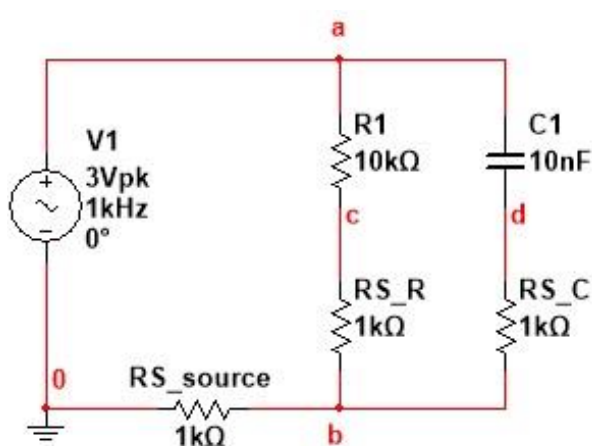
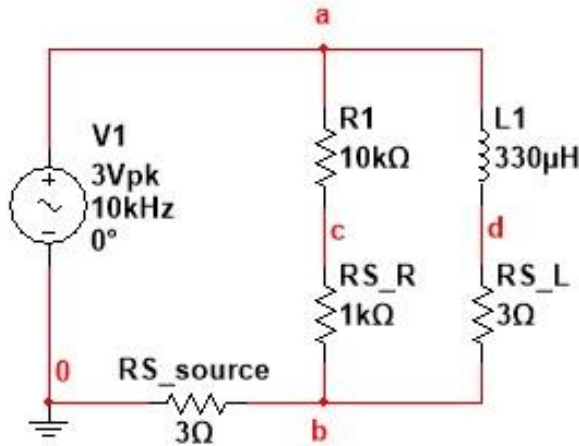
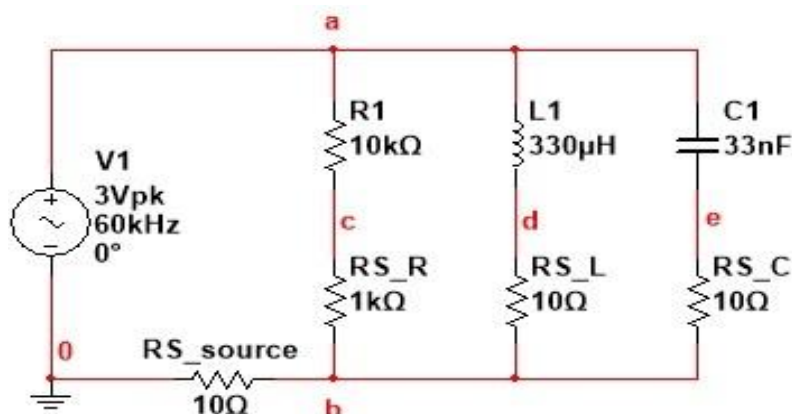

Fig.B.1.3: Parallel RC circuit with sense resistors
Fig.B.1.4: Parallel RL circuit with sense resistors
Fig.B.1.6: Parallel RLC circuit with sense resistors
1. Measure the practical value of the resistor (R) using DMM and note down the value in Tables 1.1, 1.3 and 1.5. Use the measured values in all your calculations.
2. Measure the practical value of the capacitor (C) using an LCR meter and note down the values in Tables 1.1 (10nF), and 1.5 (33nF). Do the same for the inductor (L) and note down the values in Tables 1.3 and 1.5.
- Construct the circuit shown in Fig.B.1.3 on the bread board. Connect Channel 1 of the oscilloscope across the source V_S (positive red port to node 'a' and negative black port to node '0' i.e. ground). Connect the channel 2 at node 'b' (positive red port to node 'b' and negative black port to node '0' i.e. ground).
16. Construct the circuit shown in Fig.B.1.4 on the bread board. Connect Channel 1 of the oscilloscope across the source V_s (positive red port to node 'a' and negative black port to node '0' i.e. ground). Connect the channel 2 at node 'b' (positive red port to node 'b' and negative black port to node '0' i.e. ground).
19. Construct the circuit shown in Fig.B.1.3 on the bread board. Connect Channel 1 of the oscilloscope across the source V_s (positive red port to node 'a' and negative black port to node '0' i.e. ground). Connect the channel 2 at node 'c' (positive red port to node 'c' and negative black port to node '0' i.e. ground).
1. In MULTISIM, construct the circuit in figure B.1.3, B.1.4 & B.1.6 and do TRANSIENT analysis for showing the time delays between different voltages across the components.
2. Draw the phasor diagrams for the circuits in Fig B.1.3, Fig B.1.4 and Fig B.1.6.